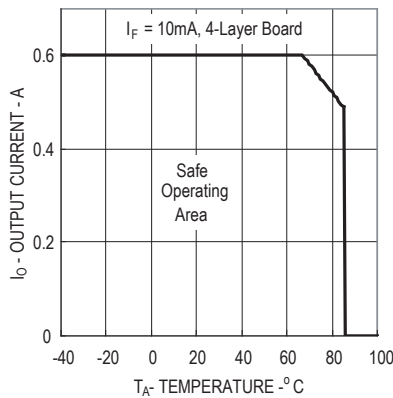

Figure 1. Maximum Output Current Rating vs Ambient Temperature (ASSR-1410-003E)
- For derating, refer to Figure 1, 2, 3 and 4.
Derating curves are shown in Figures 1, 2, 3 and 4, specifying the maximum output current allowable for a given ambient temperature. The maximum allowable output current and power dissipation are related by the expression $R_{ss}=P_o(max)/(I_o(max))^2$ from which R_{ss} can be calculated. Staying within the safe area assures that the steady state MOSFET junction temperature remains less than $125^\circ C$.